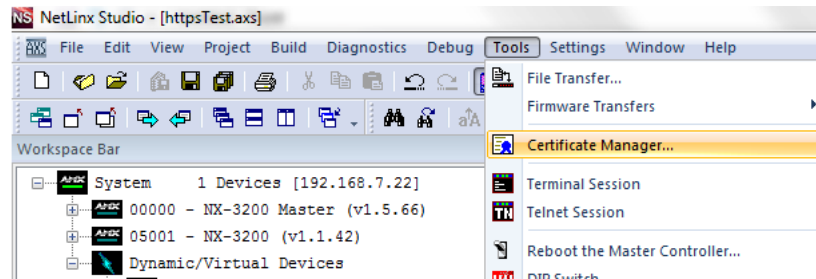

FIG. 473 NetLinux Studio
1. In NetLinux Studio connect to the NX Master and select **Certificate Manager** from the Tools Menu (FIG. 473):